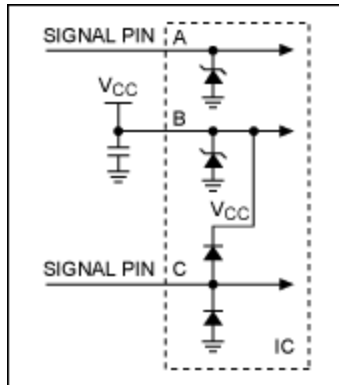

Figure 3. This schematic for a modern radio circuit with ESD protection.
Was the diode susceptible to the radio signal? Yes indeed and that is the whole point of including it here. **Figure 3** is the most common circuit found inside modern ICs. This circuit manages the ESD by using diodes in the ESD structure. As in the case of the crystal radio, the ESD diodes can also demodulate a radio signal. Thus it is necessary to take steps to protect ESD diodes from radio signals.
What will happen if an RF signal is applied to a signal pin or the V_{CC} power pin? The circuit's function reverts into a crystal radio. Now the obvious question is: are common IC ESD diodes susceptible to a radio signal? Absolutely. As seen in Figure 3, the V_{CC} line has a capacitor connected to ground. This provides a path through the capacitor for radio signals to be shunted to ground. For example, the U.S. AM broadcast radio stations are in a band around 1MHz. If the capacitor in Figure 3 (B) is $0.1\mu\text{F}$, it will reduce the AM radio signal because the capacitor is low impedance at that frequency.¹¹